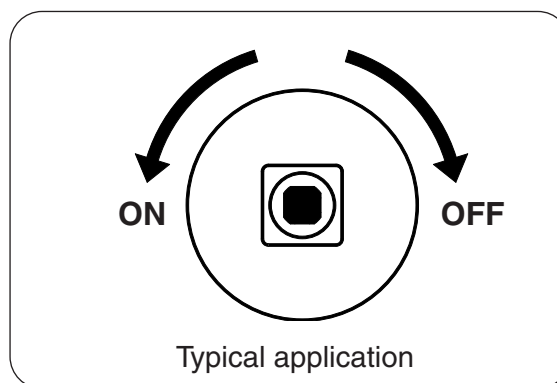

Fig. 16-2
4. **Once the match is burning and in position**, slowly turn the key valve counter-clockwise toward the **ON** position until it no longer rotates (see Fig. 16-2). Your burner should light.
**WARNING:** If the burner does not light within (5) seconds of turning on the key valve, immediately turn the key valve clockwise toward the **OFF** position until it no longer rotates.
**To extinguish your gas burner**, turn the key valve clockwise toward the **OFF** position until it no longer rotates (see Fig. 16-2). Be sure the key valve is turned fully off to avoid any gas leakage.